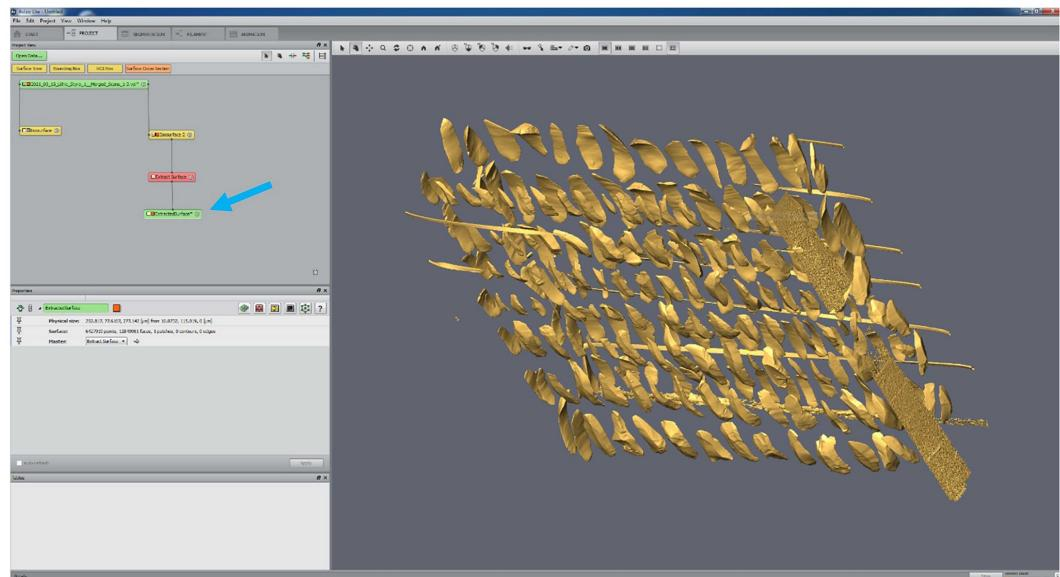

Fig. 21: Extracted surface scan.
24.5 A new label called 'ExtractedSurface' will appear (blue arrow in Fig. 21).